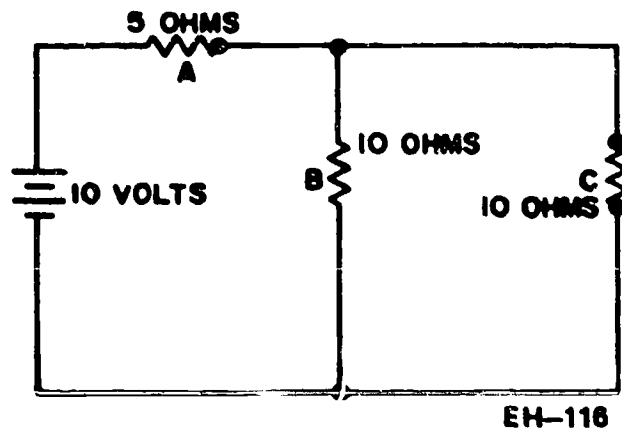

Figure 1-15. Simple series-parallel circuit.
When this is applied to the circuit in figure 1-15, the first step is to reduce the two parallel resistors B and C to an
1. What should be the first step to solve the circuit in figure 1-15?